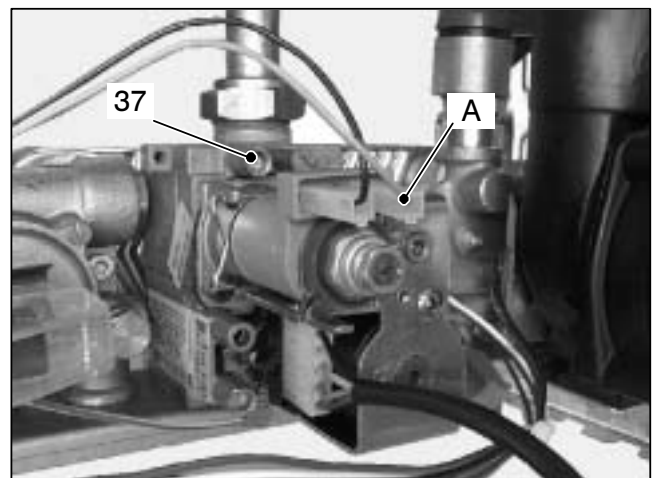

Fig. 7.5
- 2 Loosen the internal screw 37 (Fig. 7.5) on the Outlet Pressure Test Point of the Gas Valve and connect a pressure gauge using a suitable hose.
- 8 Disconnect the gas modulator coil by removing the electrical connector A (Fig. 7.5).
- 3 Unscrew the gas valve's outlet pressure test point 37 (Fig. 7.5) and connect a pressure gauge.